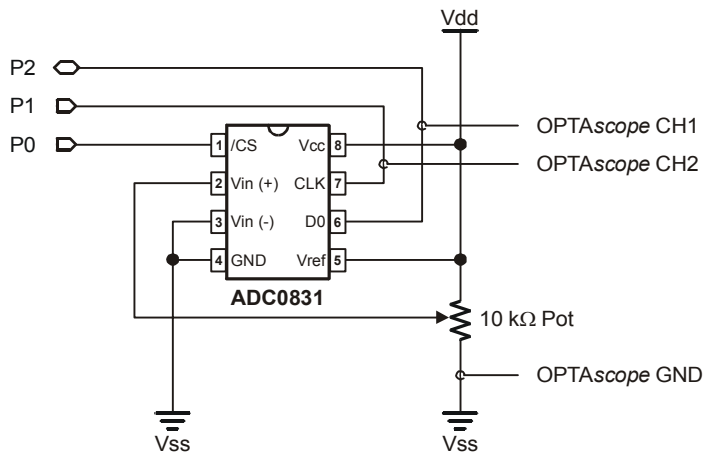
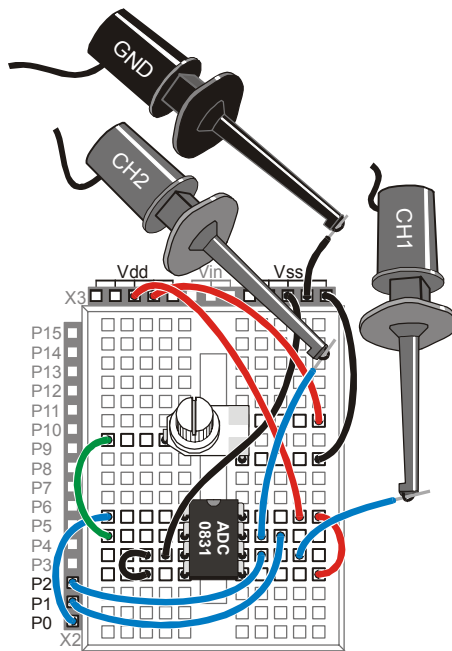

Figure 5-1:
Figure 5-2:
- √ Build the circuit shown in Figure 5-1 and Figure 5-2. It is the same for the Board of Education and HomeWork Board.
- √ Carefully connect the CH1 probe to pin 6 of the ADC0831, the CH2 probe to pin 7 of the ADC0831, and a Ground probe to Vss, as shown in Figure 5-2.